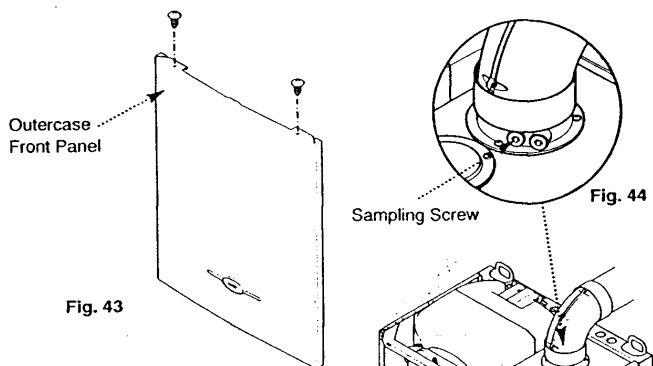
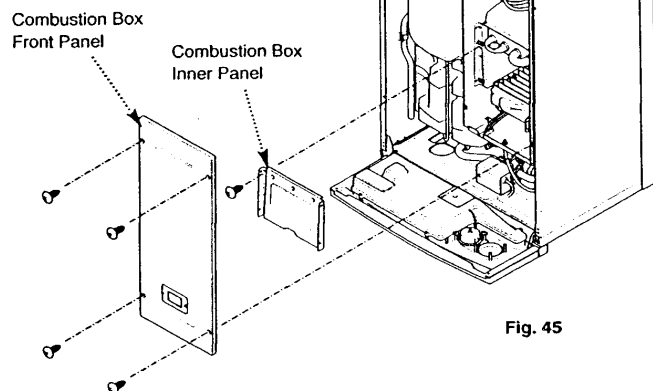

Fig. 43
Fig. 45
6. Undo the two screws on the top edge of the outcase front panel. Lift the panel slightly and remove it (Fig. 43). Undo the screws securing the combustion box front panel. Remove the panel, being careful not to damage the seal (Fig. 45).
7. Undo the screws securing the combustion box inner panel. Remove the panel and examine the insulation piece (Fig. 45).
8. Hinge the facia panel down and remove the screws securing the control panel. Lower the control panel (Fig. 45).